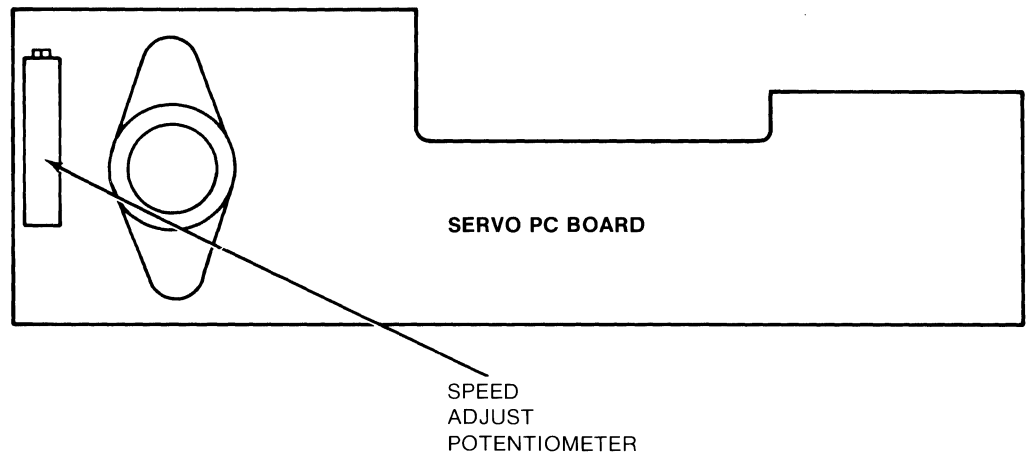

Figure 5-1. Spindle Motor Speed Adjustment
- a. Use the procedure in section V (see par. 5-5) to set-up flexible disc drives as shown in section V (see fig. 5-1).
5-8. The spindle motor speed should be re-adjusted whenever a new spindle motor or servo electronics board is installed. Refer to section V (see fig. 5-1) while making this adjustment.
- e. Locate and adjust the potentiometer on the servo board until a 200ms $\pm 1\%$ period is observed on the counter display. This will assure a 300 RPM spindle speed. (see fig. 5-1)
b. Refer to section V (see fig. 5-1) while performing these steps: